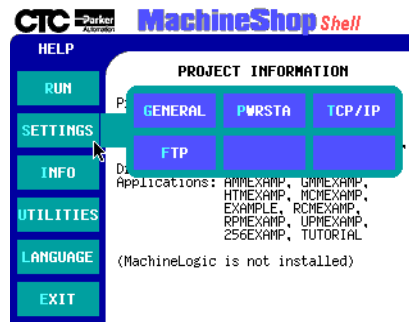

Figure 4-3 Settings Submenu
1. On the MachineShop Shell Main Menu, press the Settings button. See *Figure 4-3*.